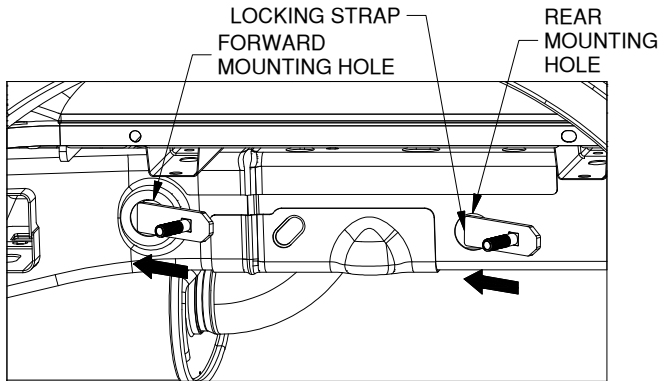
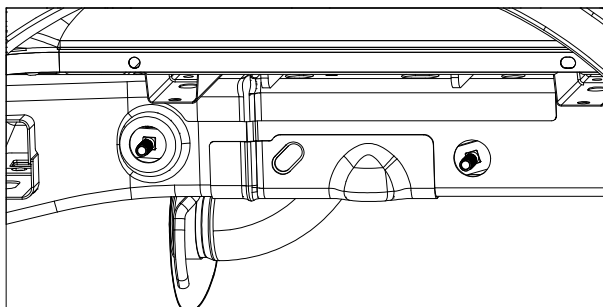

Figure C1: View of driver side wheel well.
Figure C2: View of driver side wheel well.
1. **Install carriage bolts.** Each side plate is attached to the frame with the help of a locking strap. To begin, locate the forward and rear mounting holes in the frame shown in figure C1. Attach the carriage bolts to the locking straps by passing the bolts through the straps. Insert the locking straps through the holes in the frame until they are completely inside the frame and only the carriage bolt is passing through the holes, see figure C2.